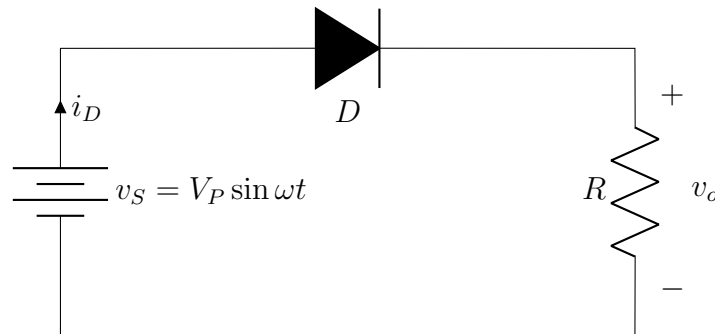

Figure 4: PN-Junction Diode Half-Wave Rectifier
- Build a half-wave diode rectifier circuit using a Si 1N4148 diode, as shown in Figure 4. Use a 5 V_{pp} sinusoidal input waveform from the M1K ADALM1000 by setting channel A to "Source Voltage, Measure Current" and producing a sine wave with parameters of 5V amplitude and 100Hz frequency. To create a waveform from -2.5V to 2.5V, a fixed 2.5V supply from the M1K will be used as demonstrated in Figure 4. Use a resistor value of 1 kΩ at the output. Connect Channel A GND to Channel B GND.